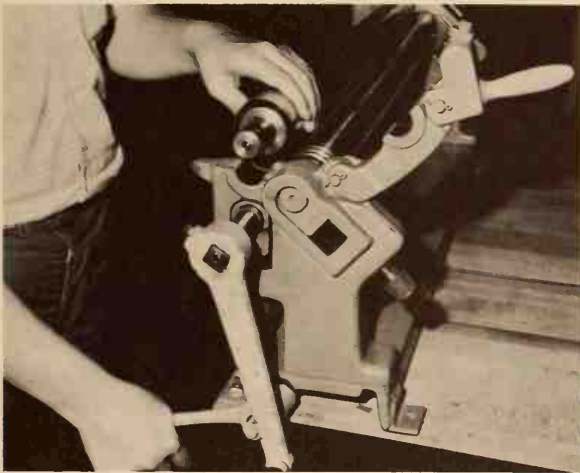

Fig. 5-27. Removing a cylinder from the forming rolls.
5. Remove the formed cylinder from the rolls, Fig. 5-27.